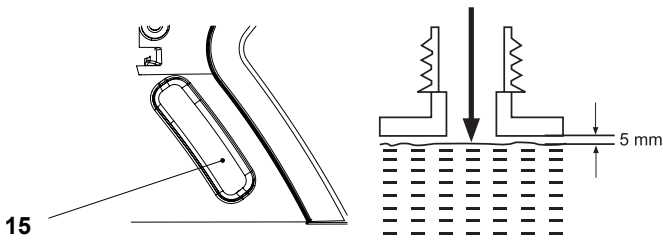

Fig. 10
4. Don't fill the oil lower than the oil level window (15), but also do not overfill or and leave approximately 5 mm of space between the top of the oil and the inside edge of the tank to allow for expansion (Fig. 10).
5. Check the oil level window (15) prior to start-up and regularly during operation. Refill oil when the oil level is close to the bottom of the oil level window (15) (Fig. 10).
6. Wipe up spilled lubricant with a soft cloth and refit the oil tank cap (2).